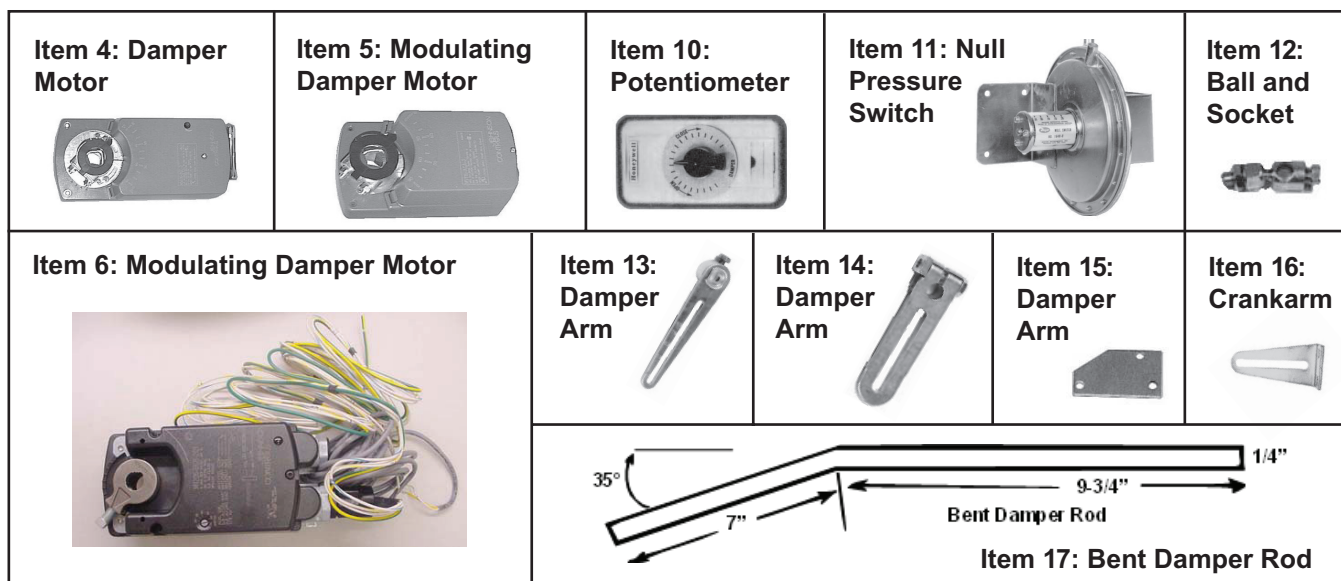

Figure 14. Damper Components (Refer to Table 25)
- Damper components are shown in Figure 14 and listed in Table 25.